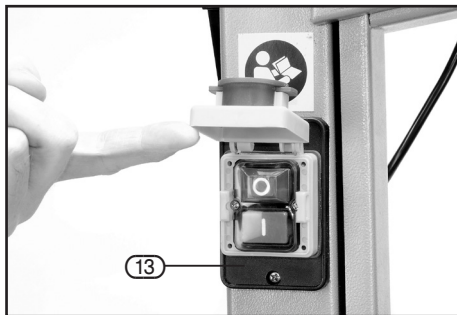

FIG. 7
9.1 NO-VOLT ON/OFF SWITCH – FIG. 7